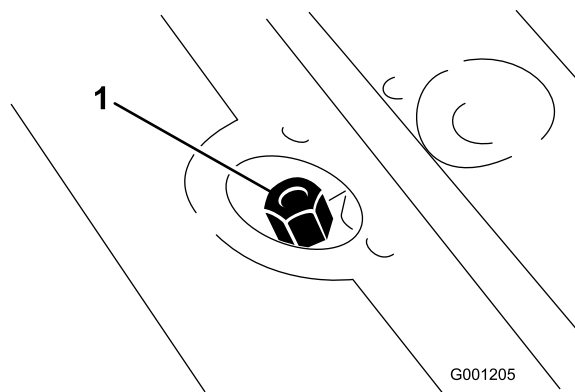

Figure 25
7. Remove dipstick cap (Figure 25) from filler neck and wipe it with a clean rag.